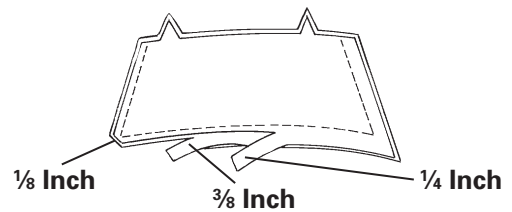
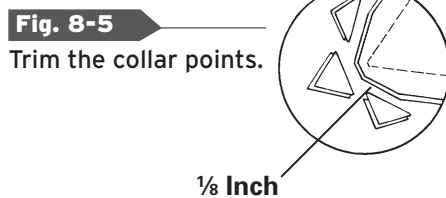

Fig. 8-4
Fig. 8-5
4. Grade the seams. Trim the interfacing close to the stitching. Trim the undercollar seam allowance to $\frac{1}{4}$ inch (6 mm). Trim the uppercollar seam allowance to $\frac{3}{8}$ inch (1 cm). (Fig. 8-4) Trim both seam allowances diagonally across collar points about $\frac{1}{8}$ inch (3 mm) from the stitching line. (Fig. 8-5) Clip the seam allowances on curves as needed for a smooth turn.